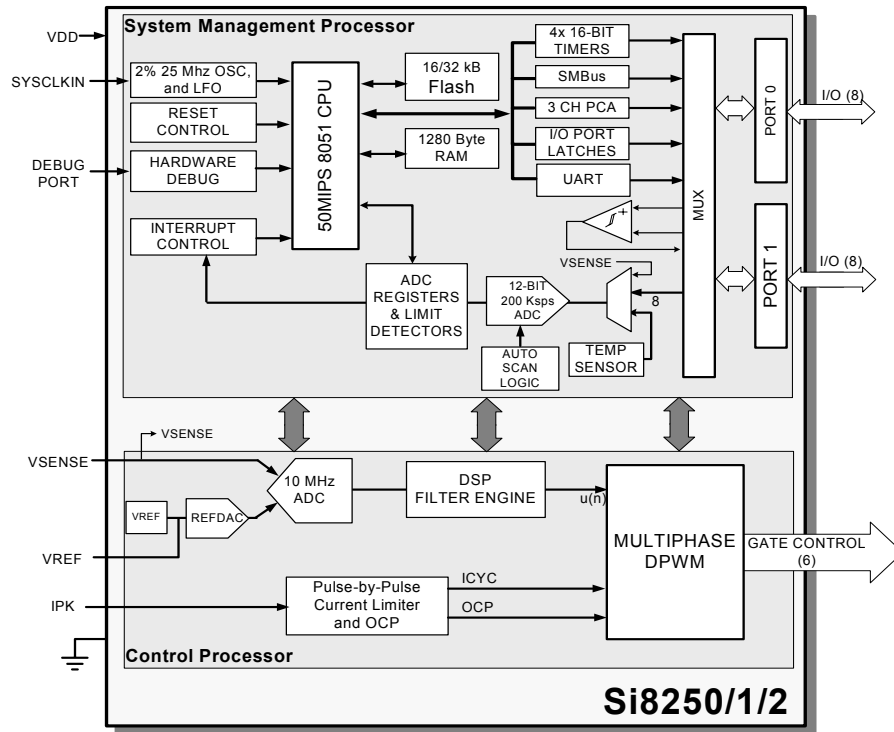

Figure 1. Functional Block Diagram
3.2. Control Processor Functional Block Descriptions (Figure 1)